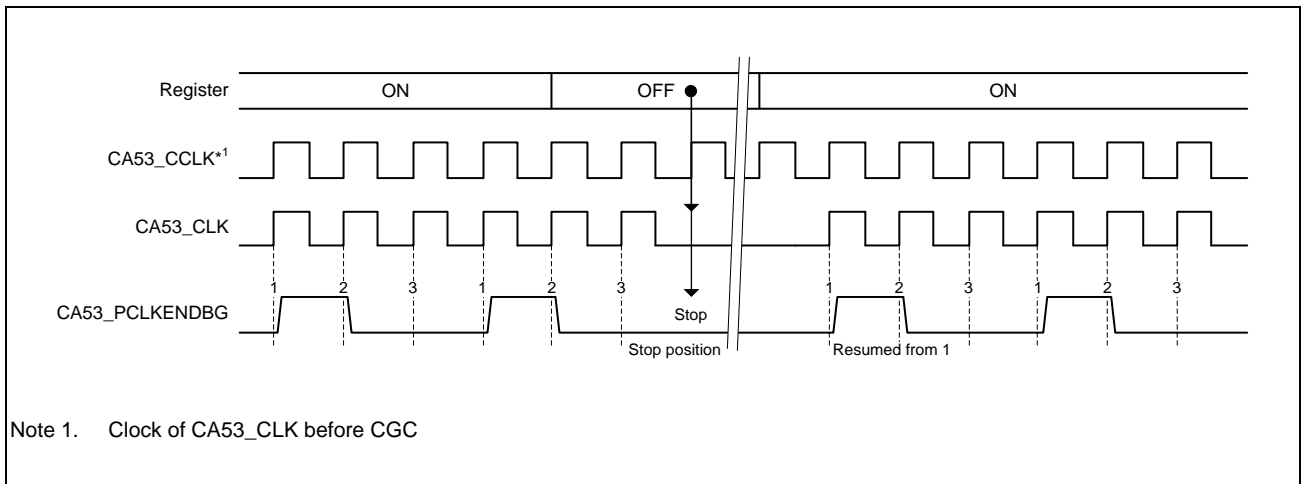

Figure 34.6-20 Timing Diagram of CA53\_PCLKENDBG
**Figure 34.6-20** shows the timing of the clock enable signal.